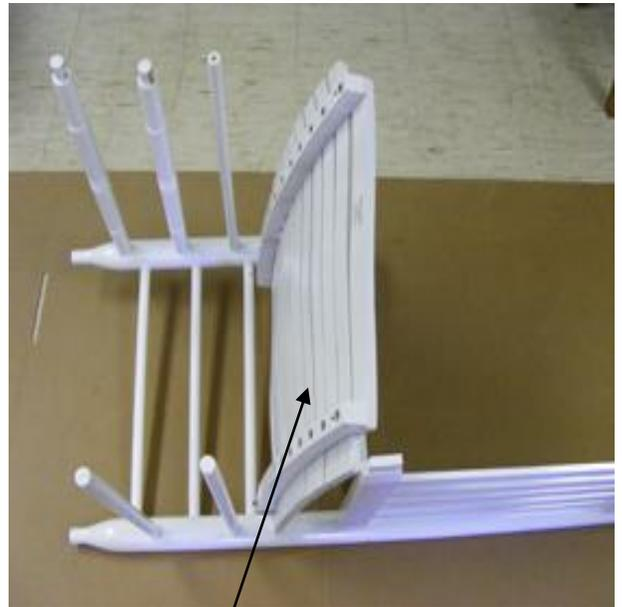
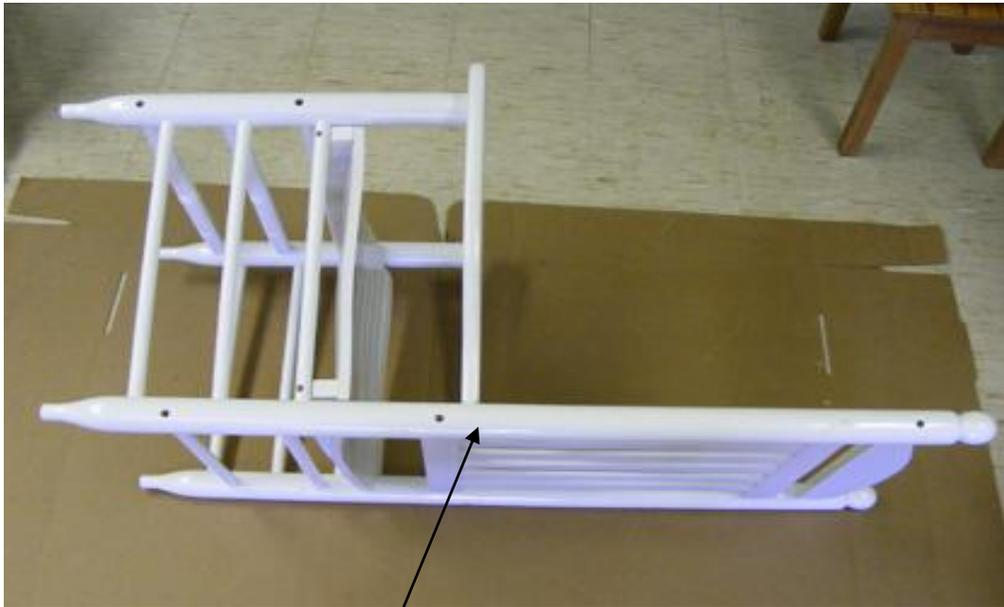
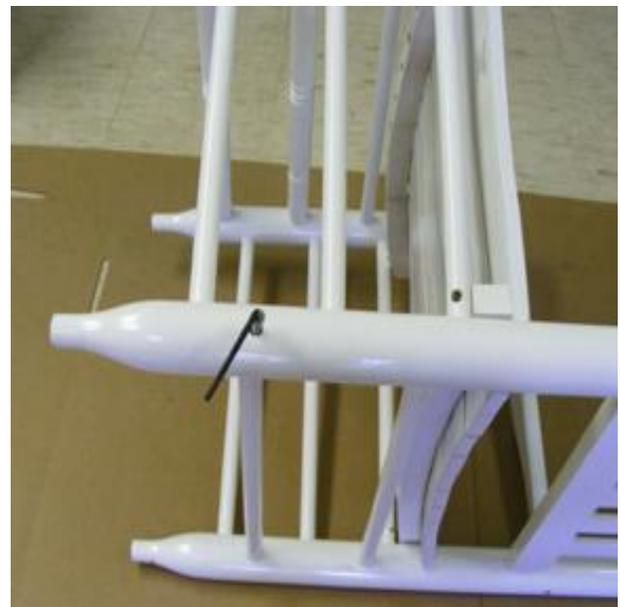

FIG. 4 A
FIG. 5
FIG. 6
Lay the Chair Seat (A) into the Chair Side (G-L). The seat must be placed as shown in Figure 5 before the next step or the chair will need to be dis-assembled to insert the seat. Figure 4
Lay Chair Side (G-R) over corresponding spindles and components as shown in Figure 6. This step is much easier if two people align the corresponding spindles and components. Once the alignment is complete begin pressing down on the side to fully seat into all of the mortises and holes. A rubber mallet or a hammer with a heavy cloth to protect the finish may be used to tap all components in place. Figure 5
Start at the bottom back post and begin inserting the provided Side screws. With the Hex Wrench that is provided begin to tighten clockwise by turning the wrench. If the screw is not threading into the Spindle or component, remove the Hex Wrench and gently tap with a hammer and repeat the process. Be careful not to over tighten as this will strip out the spindle or component. Once all five are inserted on the right side, carefully flip the chair over on the other side and repeat the entire process. Figure 6.